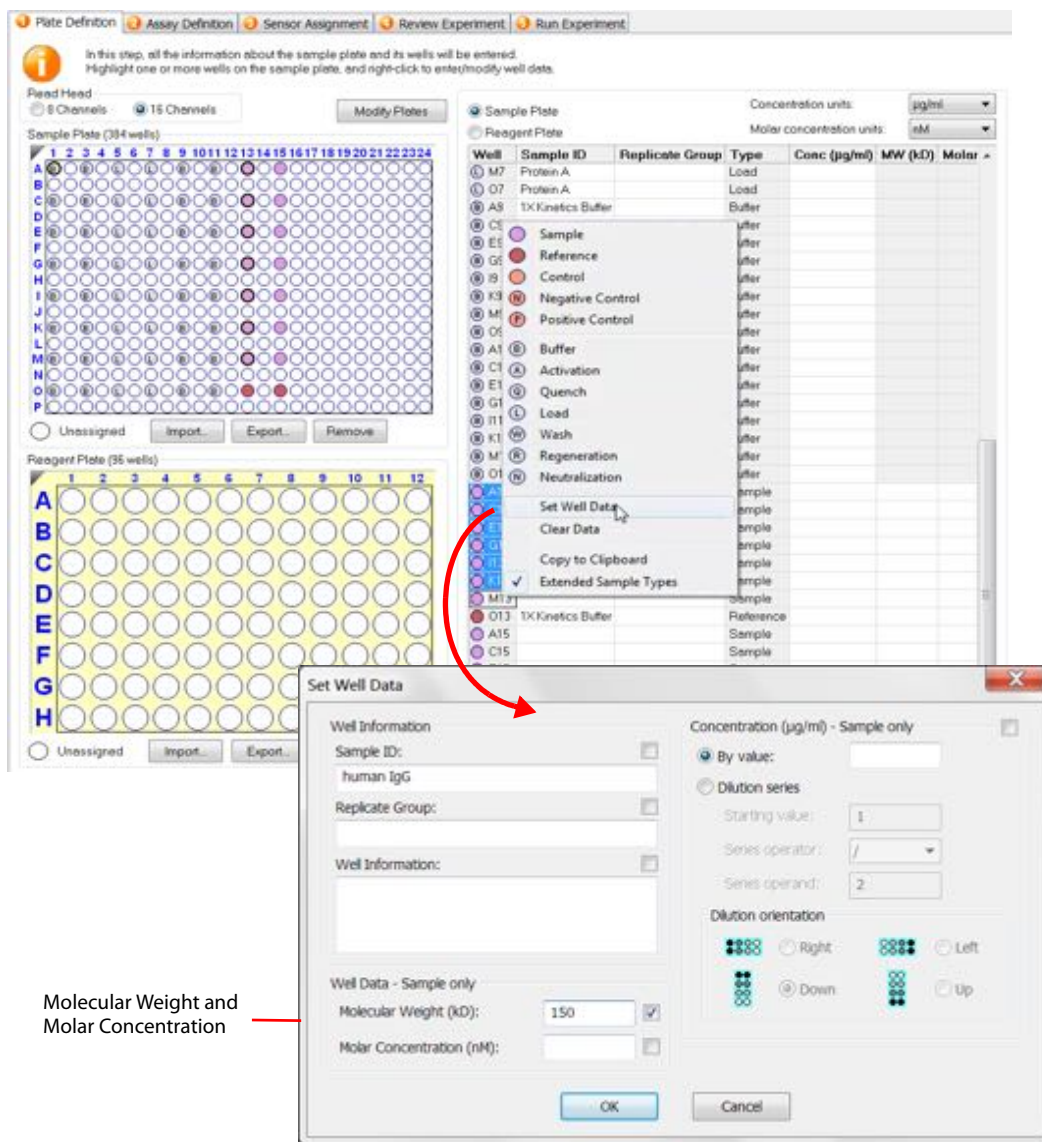

Figure 10-9: Entering Molecular Weight and Molar Concentration from the Sample Plate Map
2. In the **Set Well Data** dialog box, enter the analyte molecular and molar concentration (Figure 10-9).